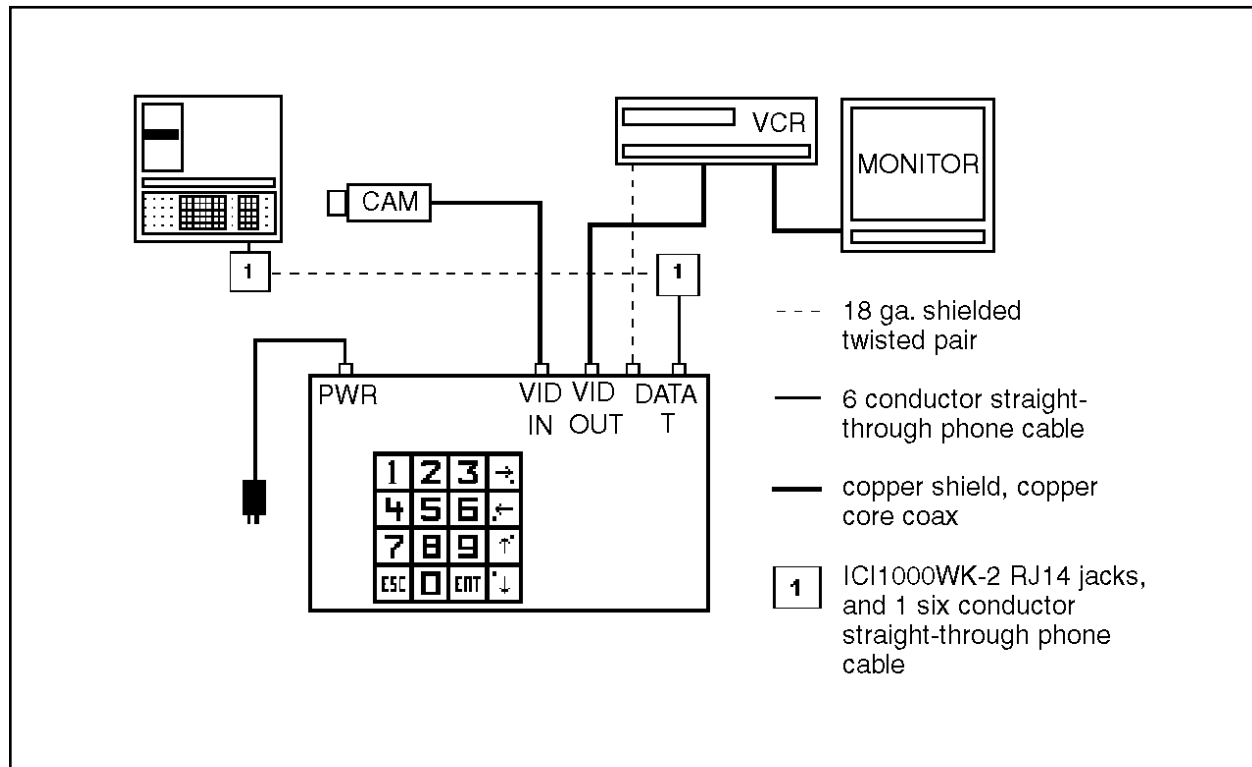

Figure 1. Basic ICI1000S Configuration Wiring Diagram
To begin installation, refer to the following instructions and Figures 1 and 2.
1. Connect the cable from your video camera to the BNC labeled "VIDEO IN" on the Inter-Check ICI1000S (refer to Figure 1). This normally comes from your camera, splitter, switcher or quad. For Coaxitron matrix installations, connect the cable from the desired MONITOR OUTPUT to the BNC labeled "VIDEO IN" on the Inter-Check unit.
3. Connect the data cable from the register interface cable (or PIM) to "DATA IN" on the Inter-Check ICI1000S, using the ICI1000WK and 18 gauge, 2-conductor shielded cable (see Figure 1).